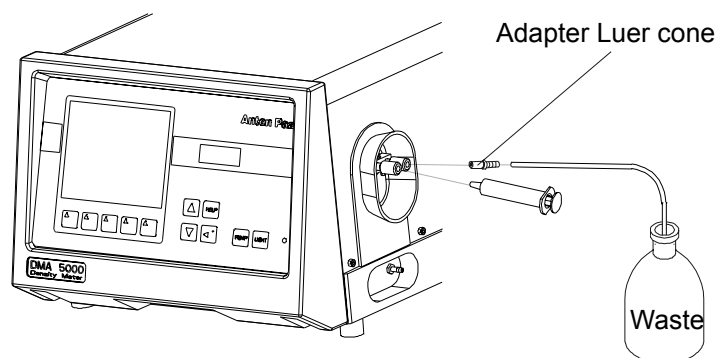

Fig. 9 - 2 Filling, using a syringe
A. **By syringe** with Luer tip, see Fig. 9 - 2.